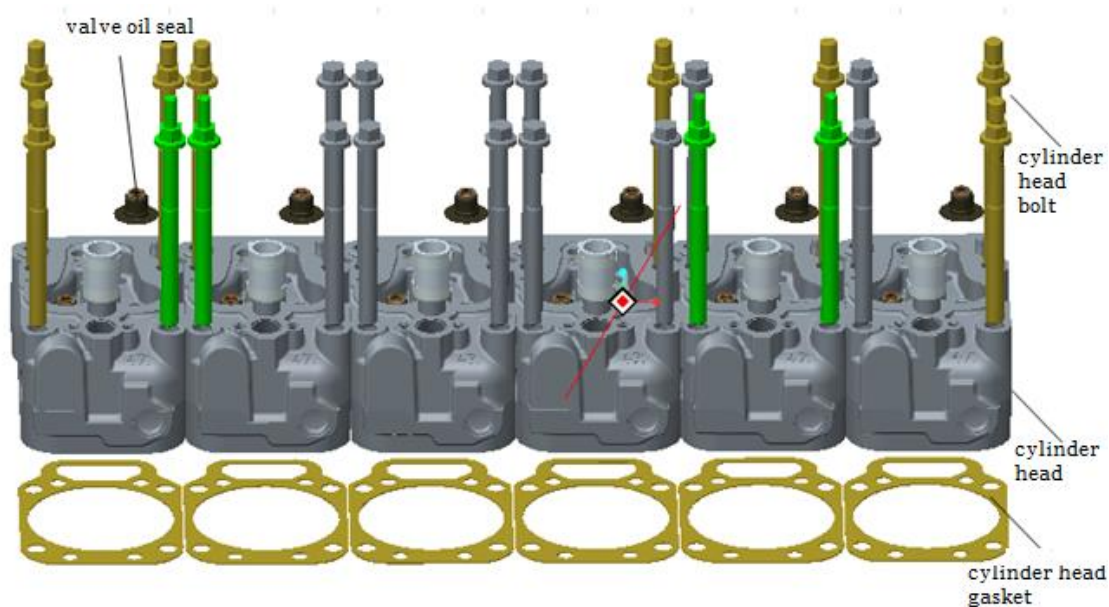

Fig. 9-5 Exploded view of cylinder heads
1. Refer to Figure 9-5 for the bolt pre-tightening and tightening order for each individual cylinder head. The cylinder heads should be tightened in the order 3-4-5-2-1-6.